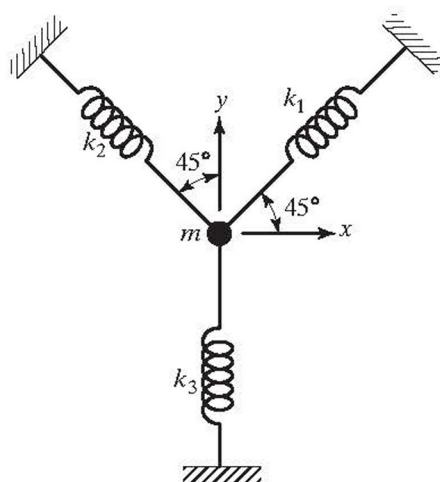

FIGURE 5.26
5.7 Determine the natural modes of the system shown in Fig. 5.26 when  $k_1 = k_2 = k_3 = k$ .